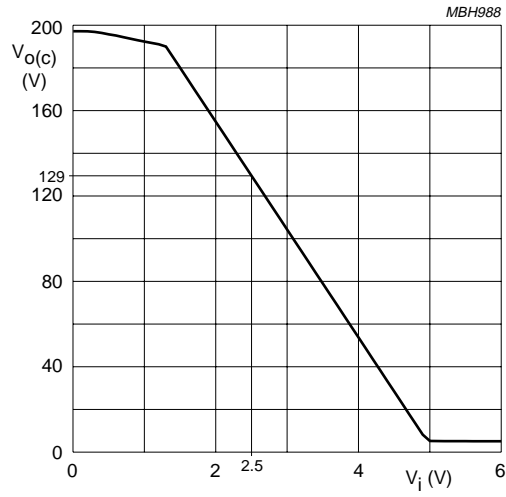

Fig.5 Typical DC-to-DC transfer of V_i to $V_{o(c)}$.
1. See also Fig.5 for the typical DC-to-DC transfer of V_I to $V_{O(c)}$.